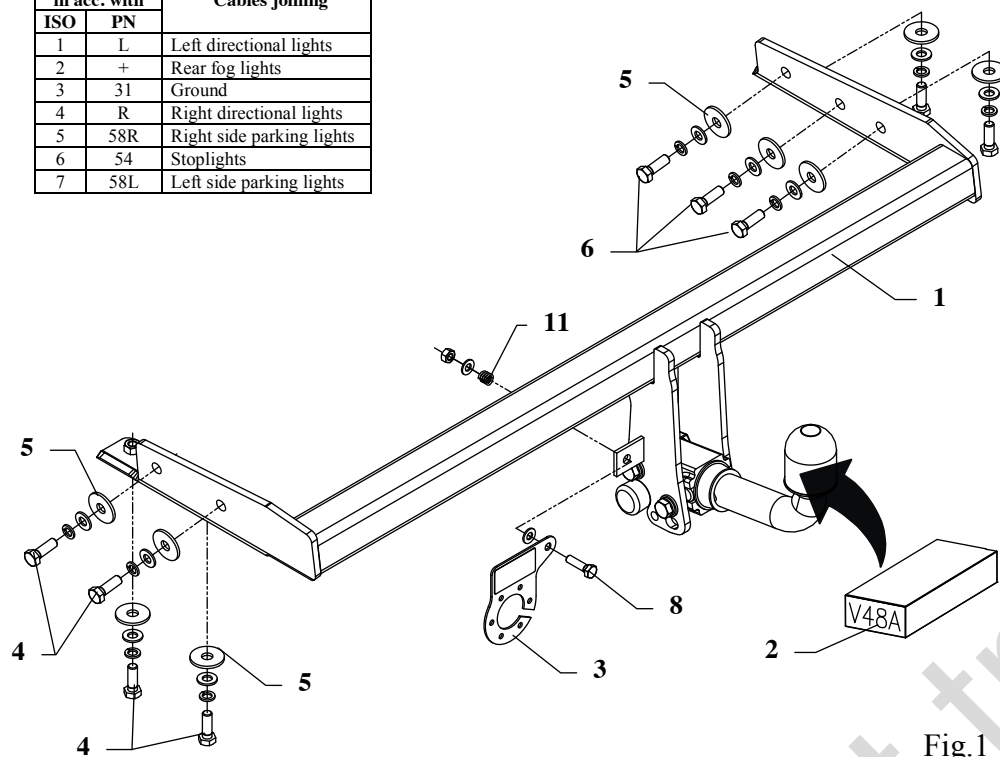

Fig.1
3. Slip main bar of towbar (pos. 1) to chassis member and fix with bolts M10x30mm (pos. 6) – see fig.1.